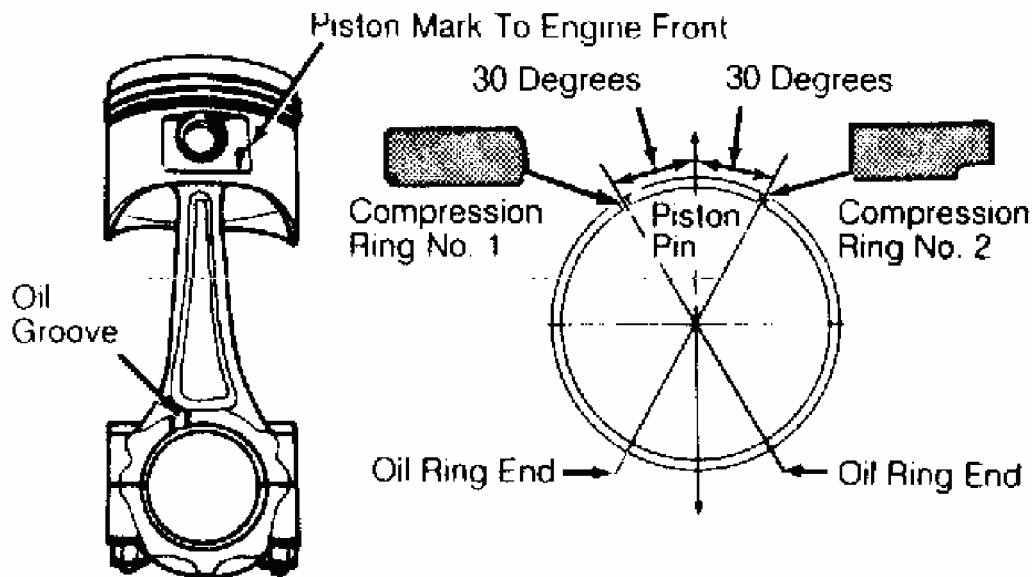

Fig. 13: Assembling Piston, Rod & Rings
3. To install, ensure parts are matched to cylinder. Ensure piston, rod, rings and bearings are properly fitted and in related positions. See **Fig. 13** . Install piston and rod assembly into block.
Match mark piston-to-pin and rod-to-piston positions for proper reassembly. Remove piston pin retaining clip. Drive piston pin out of piston and rod assembly. Install one piston pin retaining clip into groove in piston. Ensure piston is positioned properly on connecting rod. See **Fig. 13** . Tap piston pin into piston and through rod. Install second retaining clip. Piston should pivot freely.